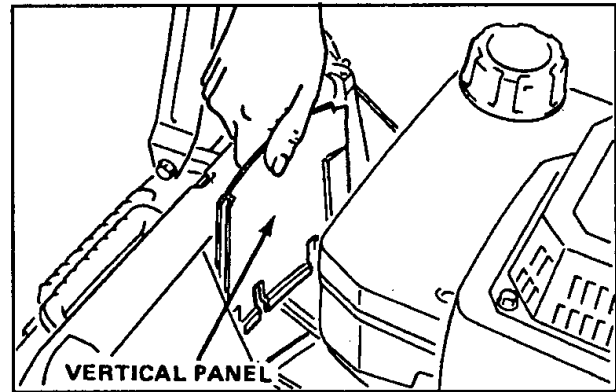

Figure 29
3. Remove the vertical panel in front of the transmission by pulling straight up (Fig. 29).